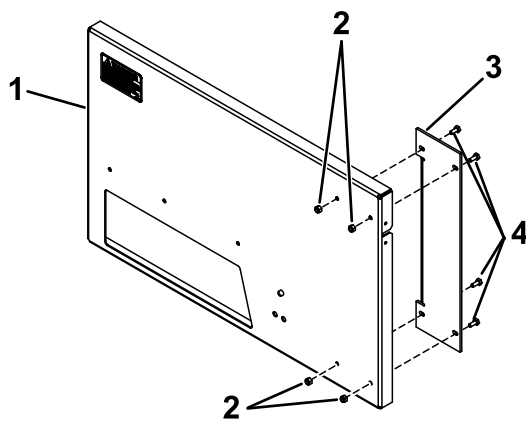

Рисунок 1
1. Install the support on the back plate using 4 bolts (1/4 x 5/8 inch) and 4 locknuts (1/4 inch); Рисунок 1.